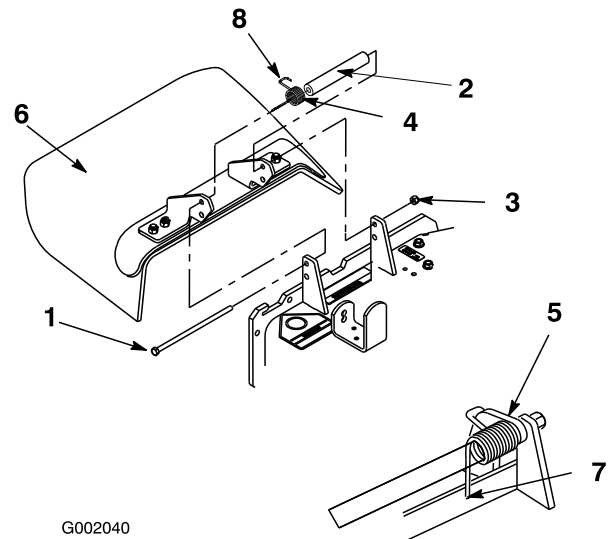

Figure 69
Note: Make sure the L end of the spring is installed behind the deck edge before installing the bolt as shown in Figure 69.
3. Install the bolt and nut. Place the **J** hook end of the spring around the grass deflector (Figure 69).
1. Remove the locknut, bolt, spring and spacer holding the deflector to the pivot brackets (Figure 69). Remove the damaged or worn grass deflector.